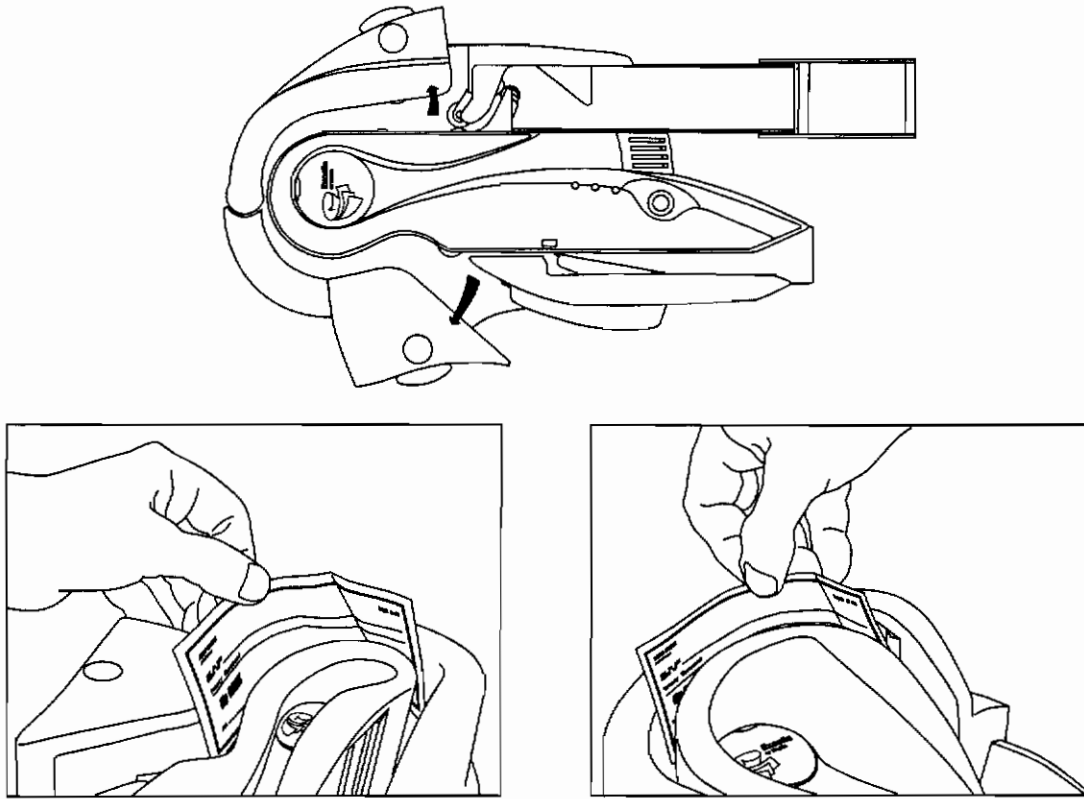

Figure 3-6. Clearing Debris or Removing Checks
1. Open both **Outside Entry and Exit Guides** as shown in Figure 3-6.